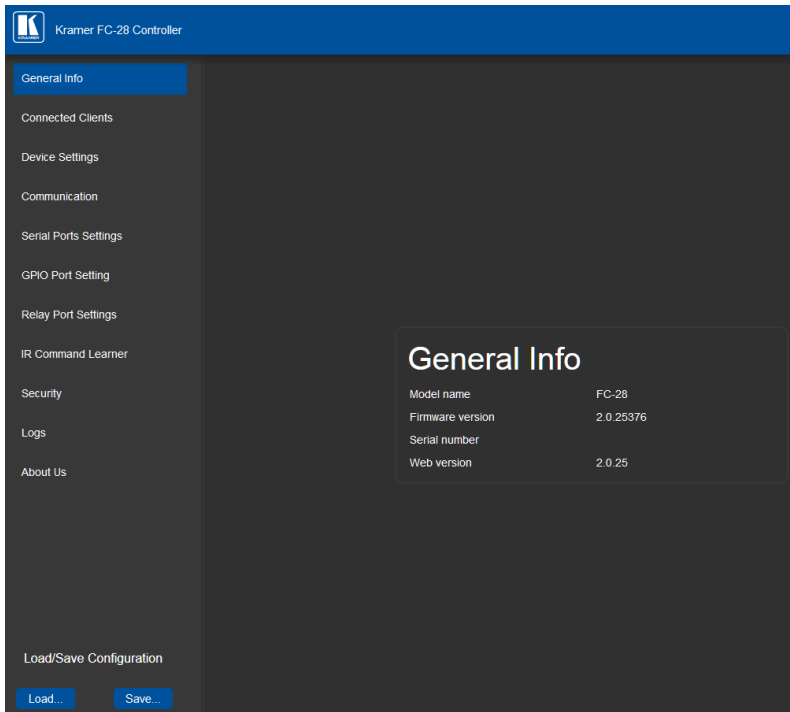

Figure 11: General Info Page
2. Using a Web browser and the relevant IP address, browse the General Info home page (see Figure 11).
The Loading page appears followed shortly by the General Info page shown in Figure 11.